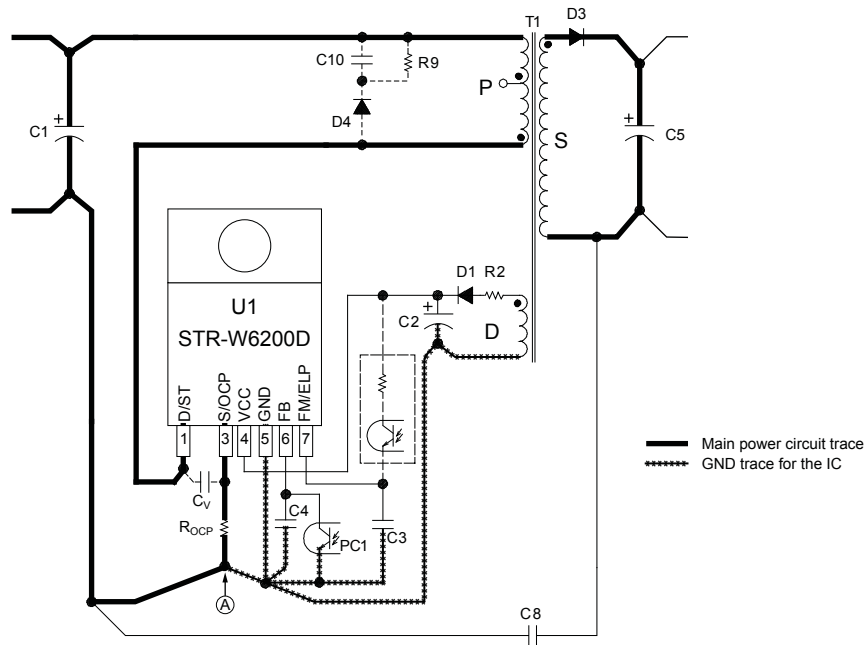

Figure 27. Peripheral circuit example around the IC
Figure 27 shows a circuit layout design example for the IC peripheral circuit and secondary smoothing circuit.
• **R_{OCP} Trace Layout:** R_{OCP} should be placed as close as possible to the S/OCP pin. The connection between the power ground of the main trace and the control circuit ground should be at a single point ground (A in figure 27) to remove common impedance, and to avoid interference from switching currents to the control circuit.